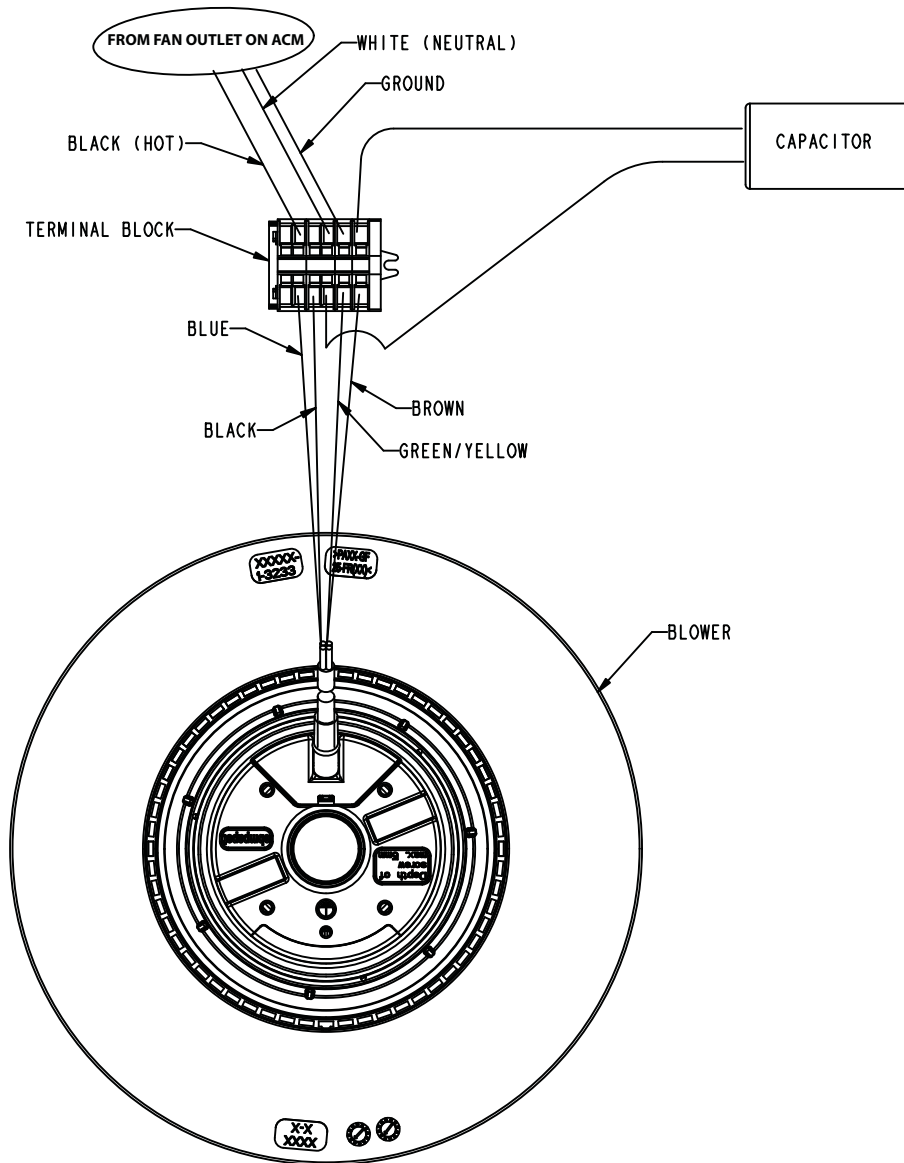

Figure 3.2 Wiring Diagram (HEAT-OUT-GAS)
18. Attach the appropriate incoming wires to the hot, neutral and ground leads from the terminal block. If using the wire plug provided in the kit, it may be necessary to cut the spade connectors off if making the connection using wire nuts (wire nuts not provided). See Figure 2.17. Follow the wiring diagram in Figure 3.2.